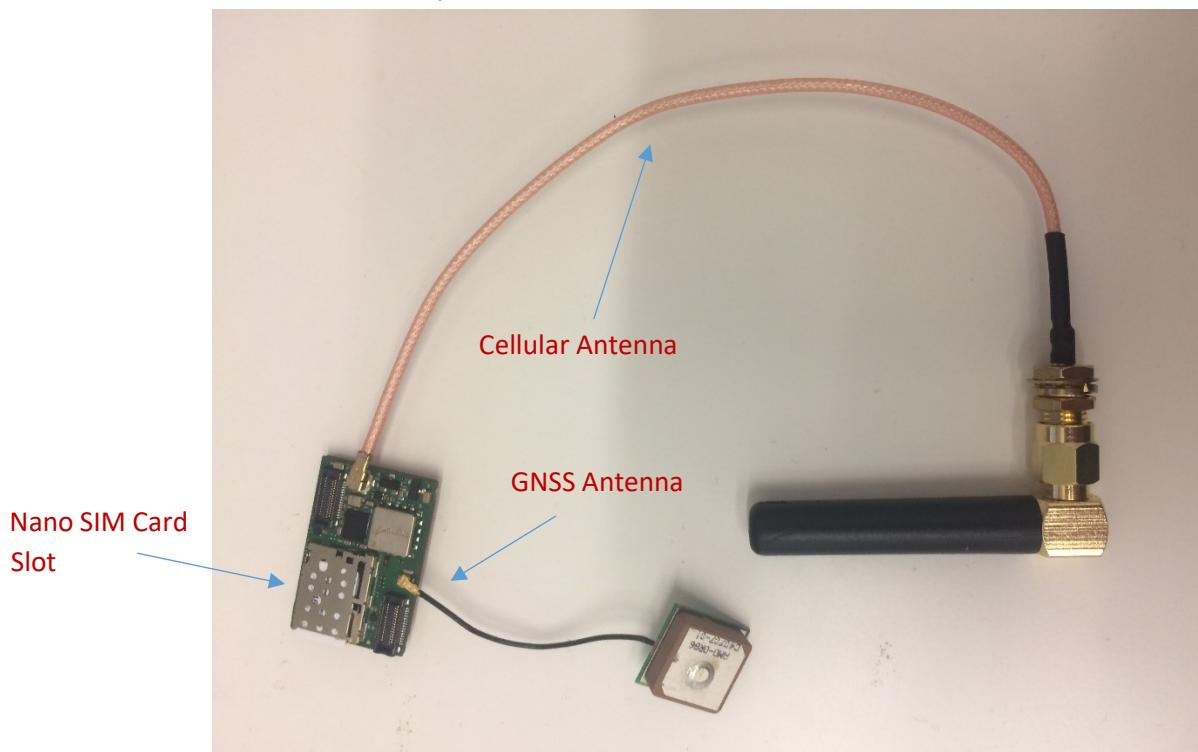

Figure 1 – connection of ORG2101 antennas and SIM card
1. Insert nano SIM card to its slot. See figure 1.
2. Connect GSM/LTE antenna to the U.FL connector OriginIoT, See figure 1.
3. Connect GNSS antenna to the W.FL connector on OriginIoT, See figure 1. (Required only if user wants to evaluate GNSS functionality)